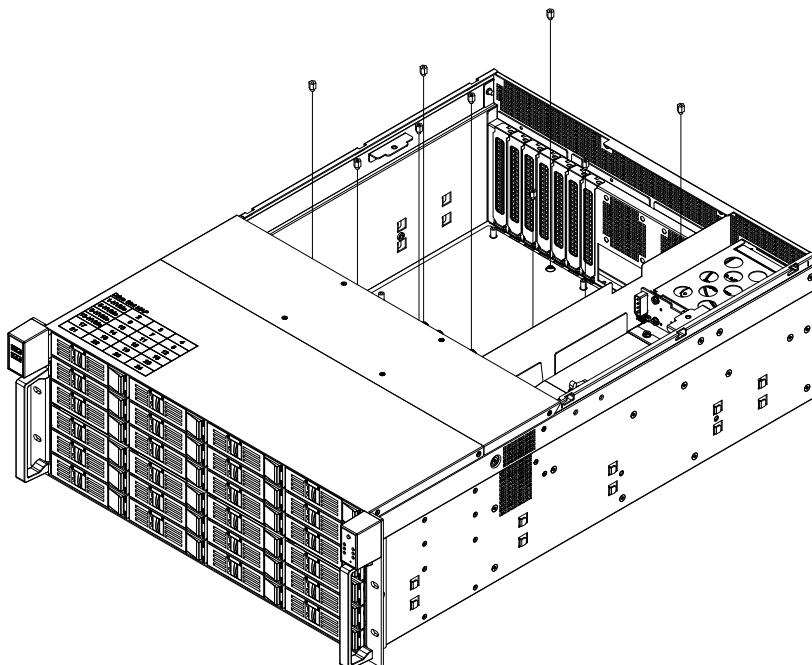

Figure 2.4 Fastening the copper stubs/ 固定铜柱 / 固定銅柱
1. Located inside the rear top cover of the HPC-8424SE SKU is a yellow label (see Figure 2.3). This label shows the plastic posts where a copper stub should be attached to install an EATX/ATX/microATX motherboard. The copper stubs are provided in the accessory box (see Figure 2.4). Affix the copper stubs in the correct location and then rotate them counterclockwise to fasten them to the chassis.
1. 在 SE 机种的后顶盖内侧有一个黄色贴纸（如图 2.3 所示）。此贴纸标示了用于安装特定 EATX/ATX/MicroATX 母板的铜柱的位置。用户可以在附件盒里找到铜柱（如图 2.4 所示）。将铜柱锁入相应的位置，然后沿逆时针方向旋转将它固定在机箱上。
2. Attach the motherboard I/O shielding onto the rear plate first. Then fasten the motherboard onto the chassis (see Figure 2.4).
2. 将主板的 I/O 屏蔽衬垫放在后面板上，然后把主板固定在机箱上（如图 2.4 所示）。